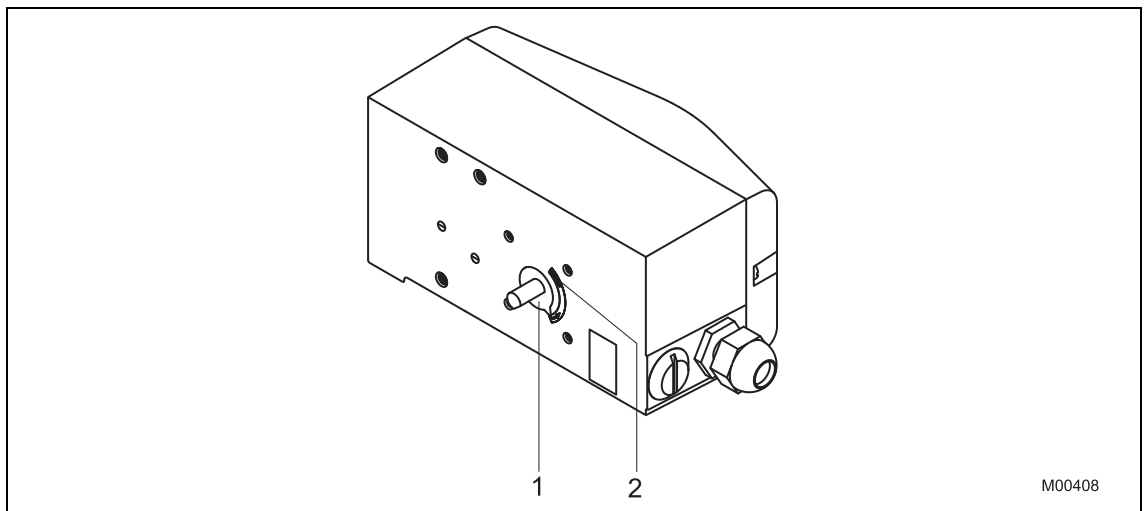

Fig. 3: Operating range
- Based on the mounting position as well as the home position and rotational direction of the actuator, determine in which position the feedback shaft (1) for the positioner must be pre-adjusted and in which position the adapter (2) must be placed to enable the positioner to travel within the proper range (the arrow on the rear of the device must travel within the admissible range, see Fig. 3)
- Place the adapter in the proper position on the feedback shaft and fasten with set screws (3). One of the set screws must be locked in place on the flat side of the feedback shaft